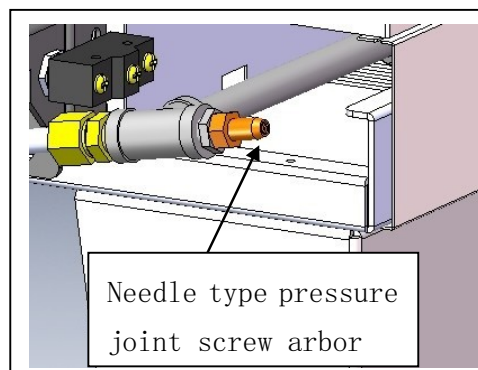

Figure 1
- Remove needle type pressure joint screw arbor (Fig.1), then slip rubber tube of pressure gauge over needle type pressure joint;